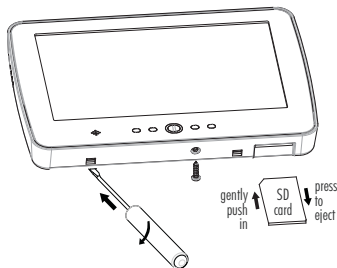

Figure 1 - Removing the backplate.
1. Remove the SD card before opening the touchscreen (see Figure 1).